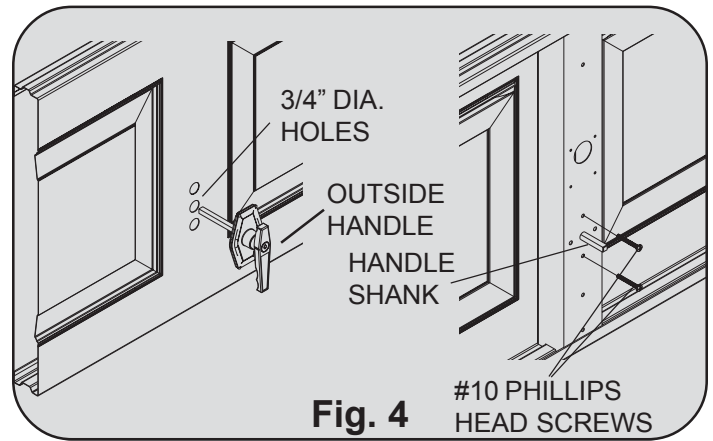

Fig. 4 #10 PHILLIPS HEAD SCREWS
8000/PR9000 & PR9050 Series doors (see Fig. 4), align the outside handle assembly with the handle pointing towards the floor and insert the assembly through the previously drilled 3/4" diameter holes in the section. Secure the outside lock handle to the section with (2) #10 phillips head screws.